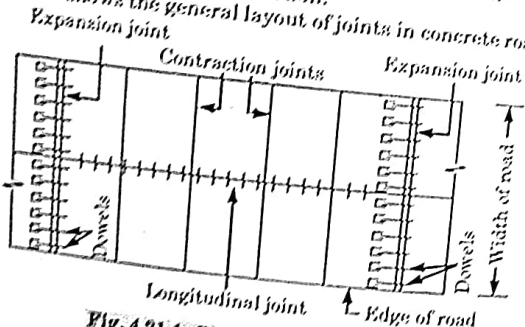

Fig. 4.21.1. General layout of joints.
- vi. Fig. 4.21.1 shows the general layout of joints in concrete roads.